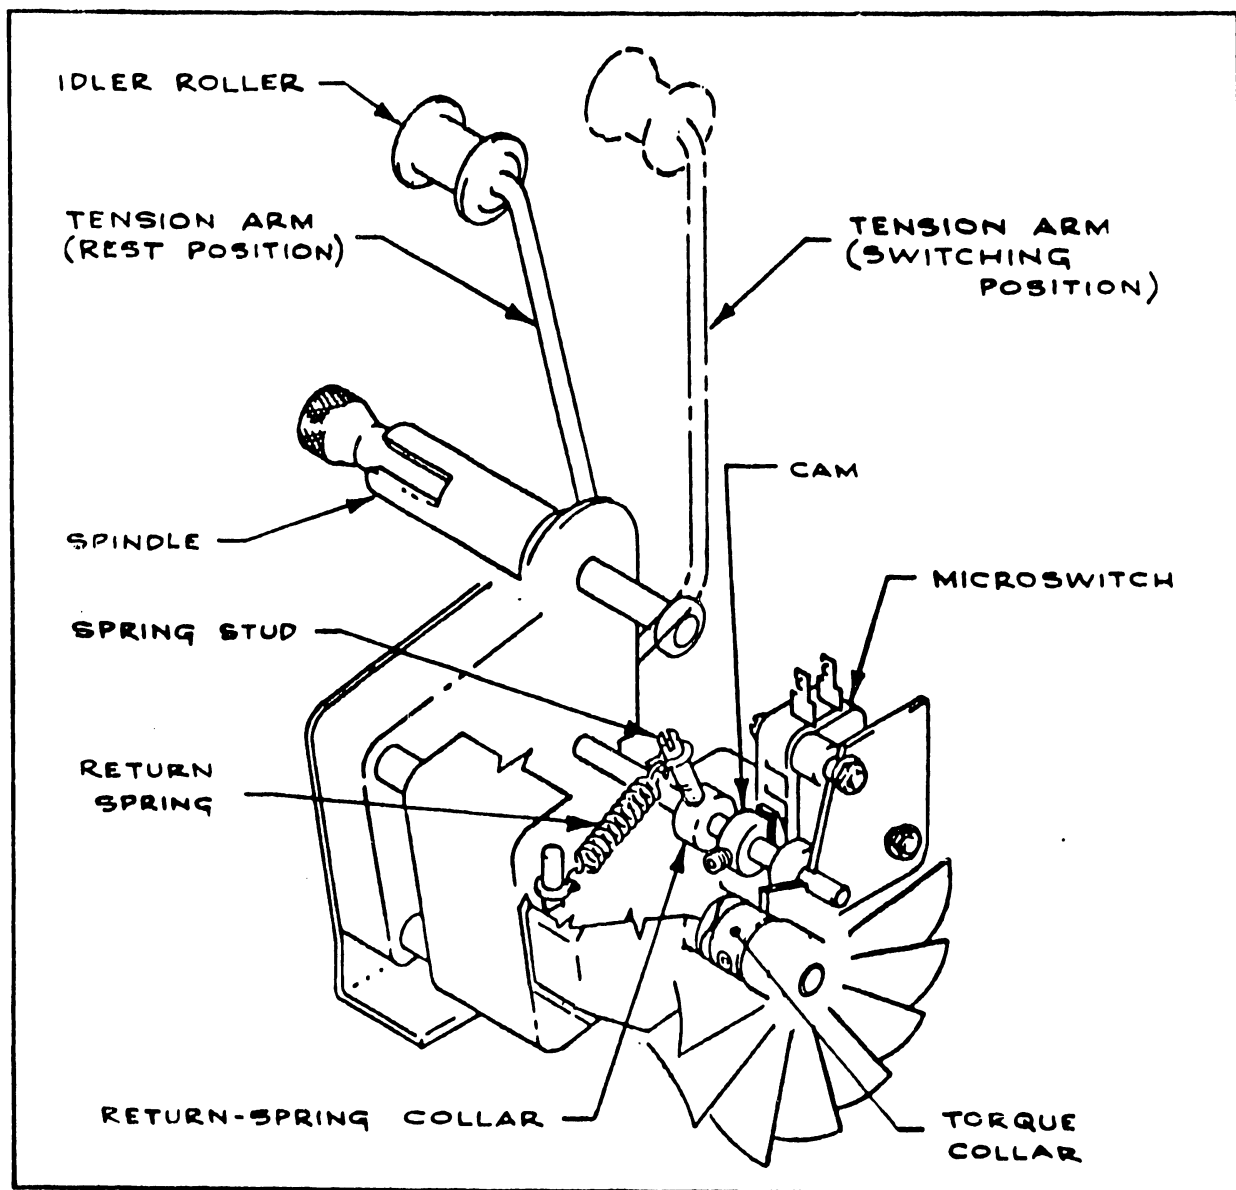

Figure 4.5 Tape Rewinder
1. Lift the tension arm to its perpendicular position; Figure 4.5. If the microswitch is transferred before this position is reached or does not transfer when this position is reached, loosen the cam setscrew. With the arm in the perpendicular position, adjust the cam so the microswitch transfers and tighten the setscrew.